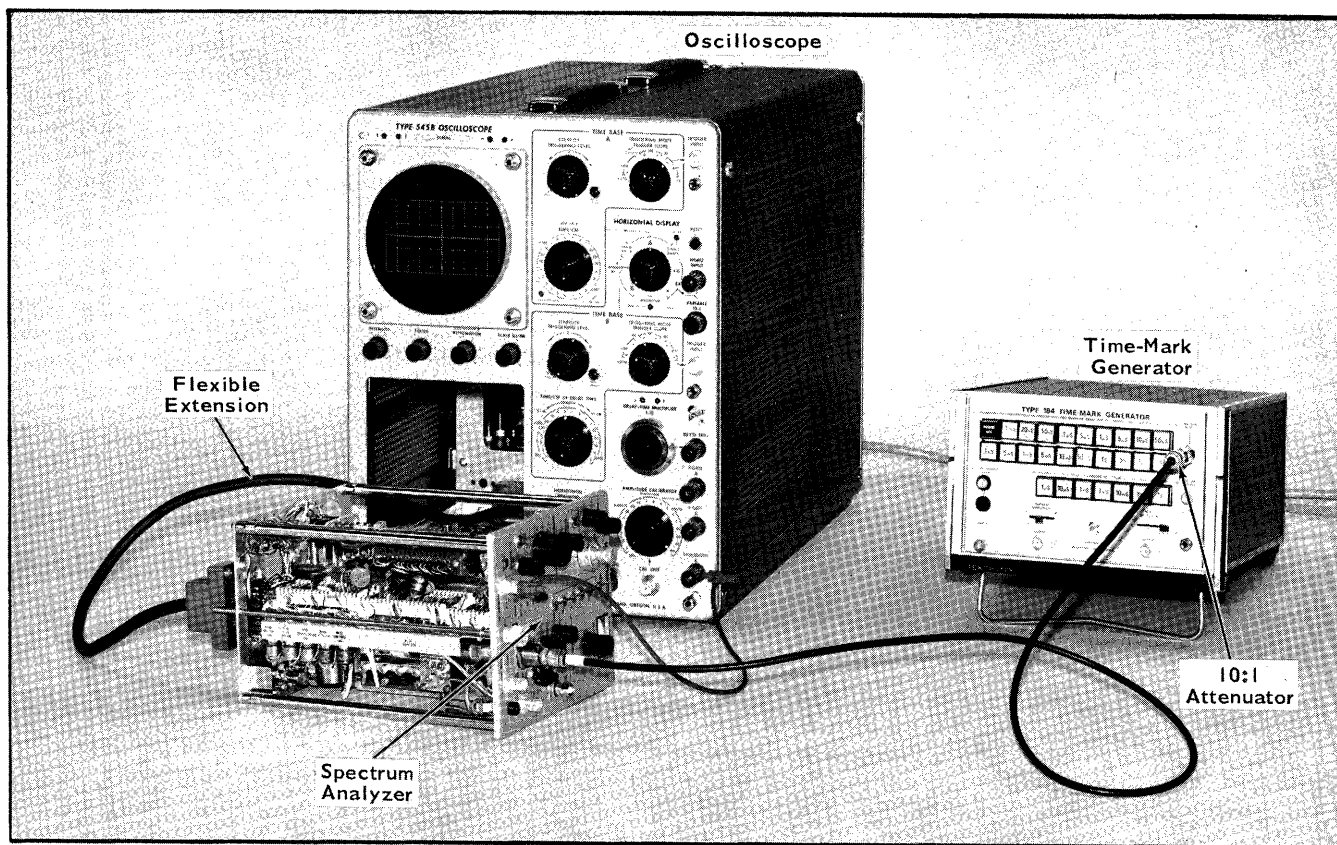

Fig. 6-3. Setup for adjusting Dispersion accuracy (Step 2).
a. Connect the equipment as shown in Fig. 6-3.